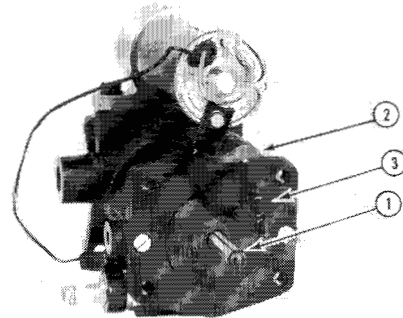

Figure 78
Slide piston rod (1, Figure 78) in power booster assembly (2). Swing grounding bracket (3) out of the way,